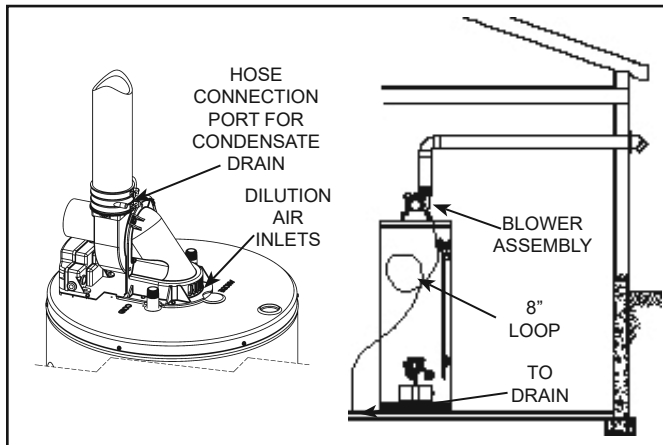

Figure 29.
1. This power vented water heater comes with blower assembly installed (see Figure 29).
This heater requires room air to lower the flue gas temperatures before the gases pass through the vent system. The dilution air inlets are located on the rear of the blower assembly (see Figure 2 and Figure 29).
Condensate formation does not occur in all installations of power vented water heaters, but should be drained on installations where it can form in the venting system. Condensation in the venting system of power vented water heaters is dependent upon installation conditions including, but not limited to, ambient temperature and humidity of installation location, ambient temperature and humidity of venting space, vent discharge and slope, and product usage. In certain conditions, installations in unconditioned space or having long horizontal or vertical vent runs can accumulate condensate. Long lengths of venting that pass through cool/cold areas will experience condensation. The vent pipe should be sloped upwards away from the blower assembly, then adequate means for draining and disposing of the condensate needs to be made by the installer. If installation conditions cause condensation, install a condensate trap loop approximately 200mm (8") in diameter using 3/8" plastic hose. Connect the hose to the built-in drain port of the rubber coupling of the blower assembly (see Figure 29). Loop the hose in a vertical position as shown. The tube loop must be filled with water at least half way prior to operating the heater. Ensure the end of the tube has access to a drain as condensate will flow from the end. Secure the tubing to the side of the heater. Prior to operating the water heater, make sure the removable cap is installed on the drain port (if a drain hose is not needed).